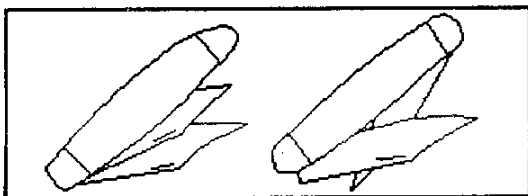

Figure 9
*NOTE:* A jackknife has blades at one end only, while a penknife has blades at both ends (Fig. 9).